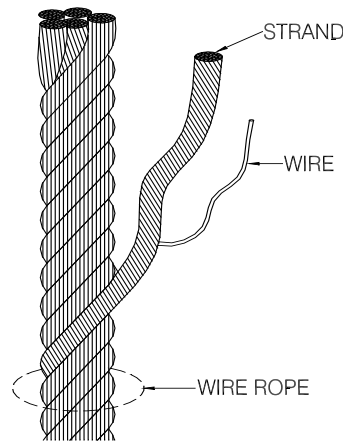

Figure 5-1.
- (b) Six randomly distributed broken wires in one rope lay. A rope lay is the length of rope along which one strand makes a complete revolution around the rope. See **Figure 5-1**. If a broken wire or wires are localized in the end attachment of an operating rope and making a new attachment can eliminate this condition, this may be done instead of replacing the entire rope. Keeping the rope clean and wound evenly on the winch drum will increase its life and efficiency.